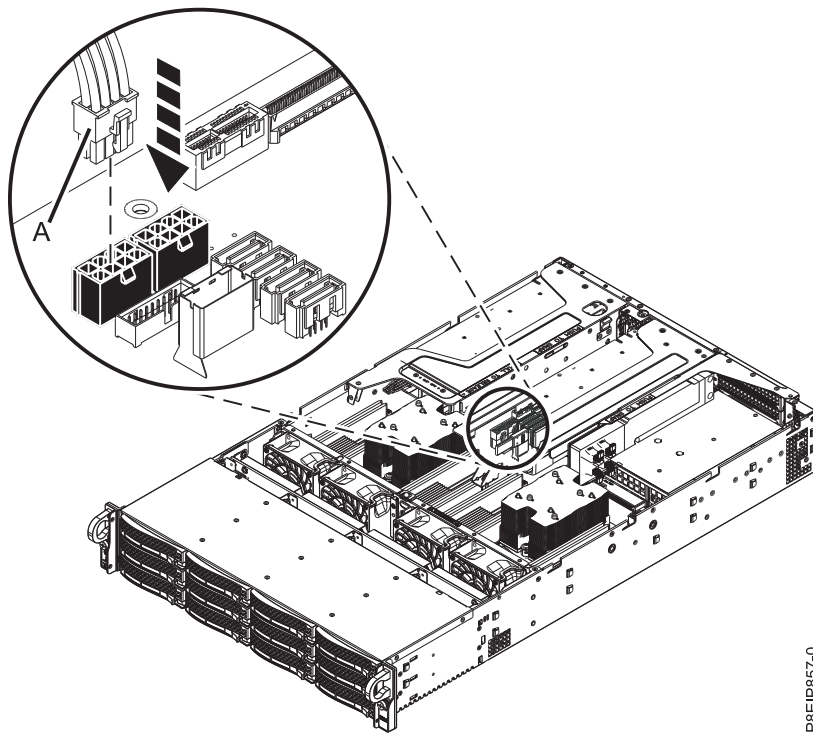

Figure 56. Plugging in the GPU power cable
- i. If position 5 contains a GPU, plug the GPU power cable (A) into the system backplane as shown in Figure 56.